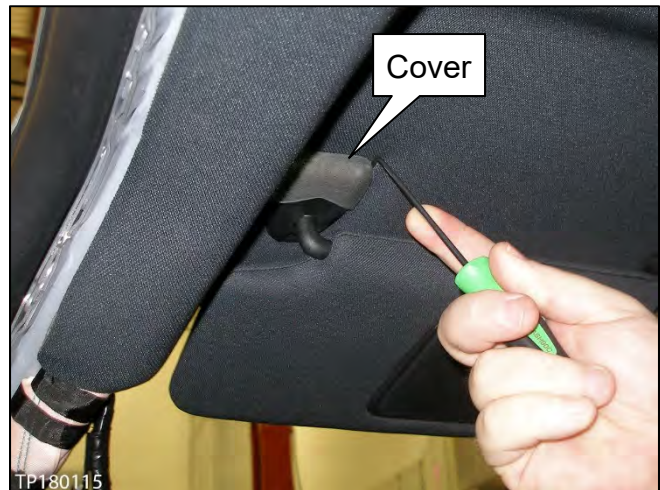

Figure 11
- Using a pick or similar suitable tool to unsnap one corner and finishing removal with your fingers helps prevent tab breakage (see Figure 11, 12, and 13).